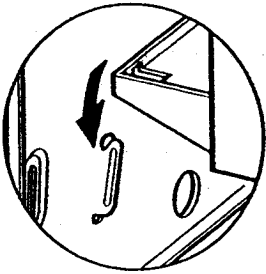

Fig. 69
1. Offer up the combustion box to the back plate and locate the rear bottom edge of the combustion box onto the self locating support at the base of the wall plate (Fig. 69).